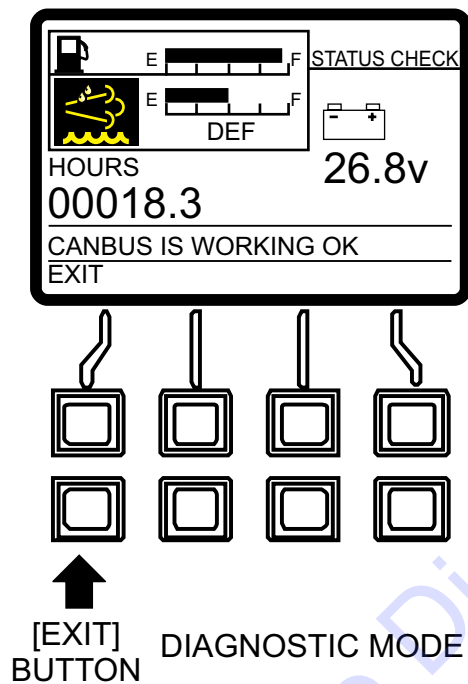

Figure 83. Status Check Screen (Diagnostic Mode)
2. Exit the Status Check Screen by pressing the **[EXIT]** button (Figure 83).